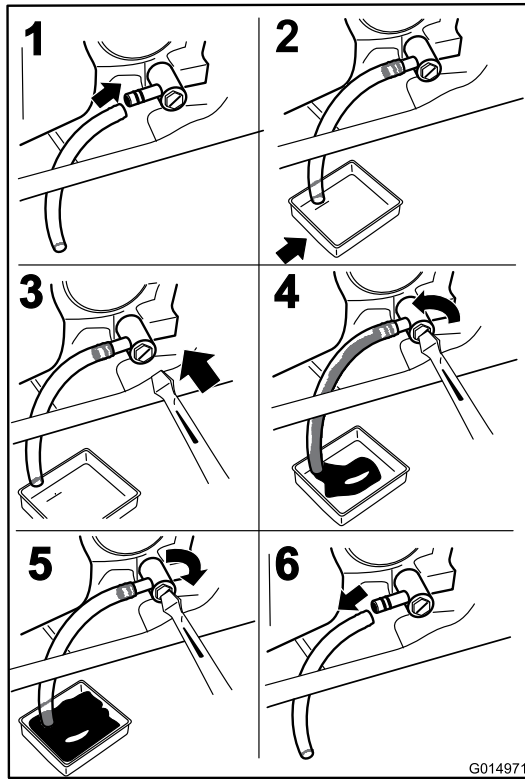

Figure 30
3. Stop the engine, remove the key, and wait for all moving parts to stop before leaving the operating position (Figure 30).